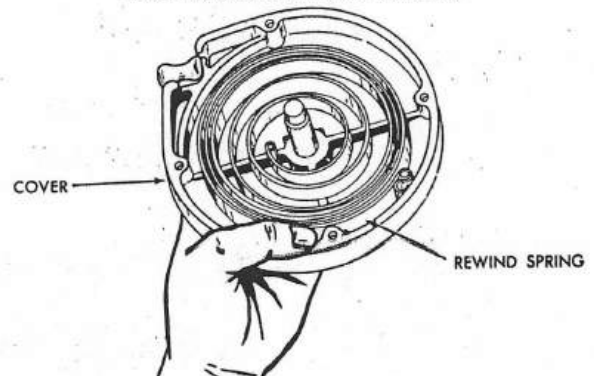

Figure 26
4. If the spring is then removed from the rotor, be sure to reinstall in the same direction. The springs and ropes on starters for gear drive saws are wound in the opposite direction than those for direct drive saws. (See Figure 26.)
1. When installing a new cord in the pulley, remove the three (3) screws No. 11. Lift the pulley sheave No. 10 from the pulley assembly and pull out old cord.
2. Replace the new cord, making sure the cord is wrapped around the stud on pulley No. 9. See Figure "Q". Replace pulley sheave No. 10, and the three (3) screws No. 11. Be sure and tighten the screws securely.
3. Hold the pulley assembly with the three (3) screws down. Then wind the cord in a clockwise direction. Insert cord through housing cover No. 16 and then into handle.
**CAUTION:** Springs and ropes for gear drive saws are wound in opposite direction than those for direct drive. Check winding before disassembly. (See Figure 26.)